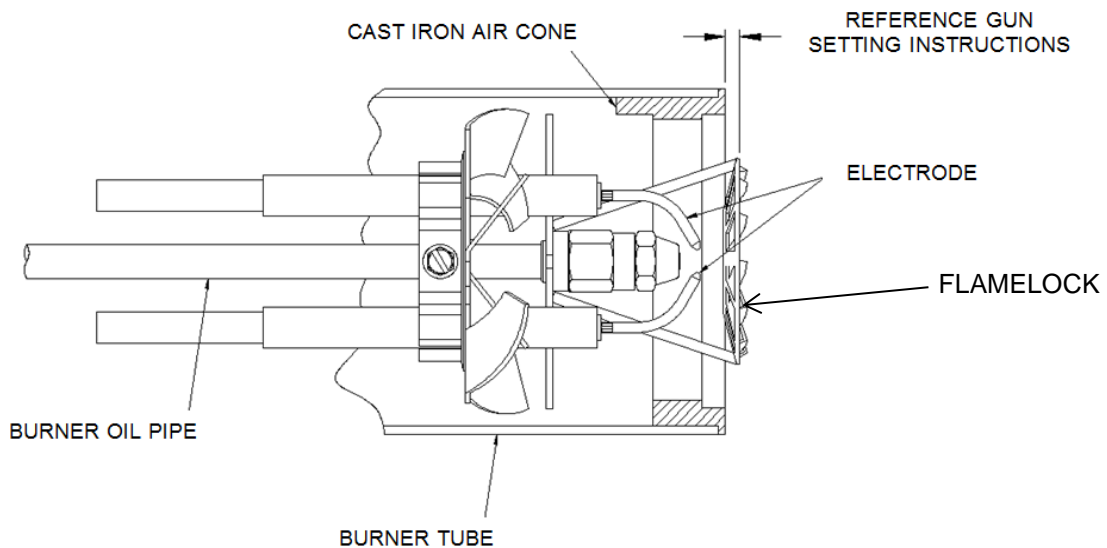
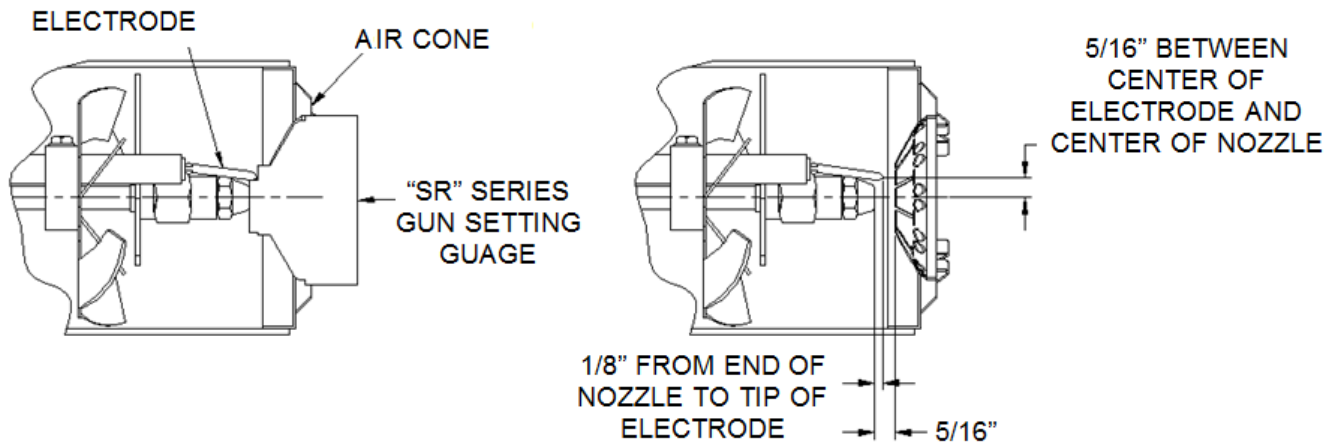

Figure 16- EHA and EH Gun Depth Settings
Figure 17– EHASR Gun Depth Settings
For the oil burner to function properly the distance between the nozzle and the air cone needs to be maintained as shown in Figure 16 & Figure 17 on page 28.
3. Once in the required position per Figure 16 and Figure 17, retighten the hex lock nut and slot cover screw, move and align arrow decal with slot plate cover.